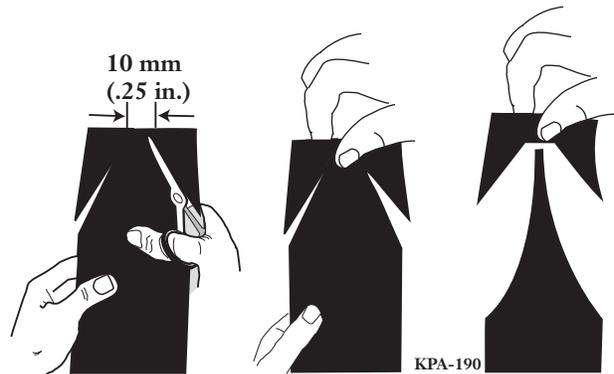

Figure 8 — Pull Sealing Tape
- Step 4** Cut and pull the strip of sealing tape as shown in Figure 8. The tape will stretch and thin before it breaks.